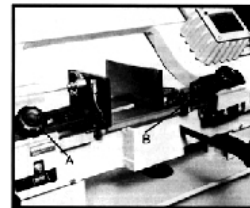

Fig. 6
2. Loosen knob (A, Fig. 6) and bolt (B). Slide blade guide assemblies as close as possible to the material without touching with the cut.
3. Tighten knob (A) and bolt (B) and connect machine to the power source.